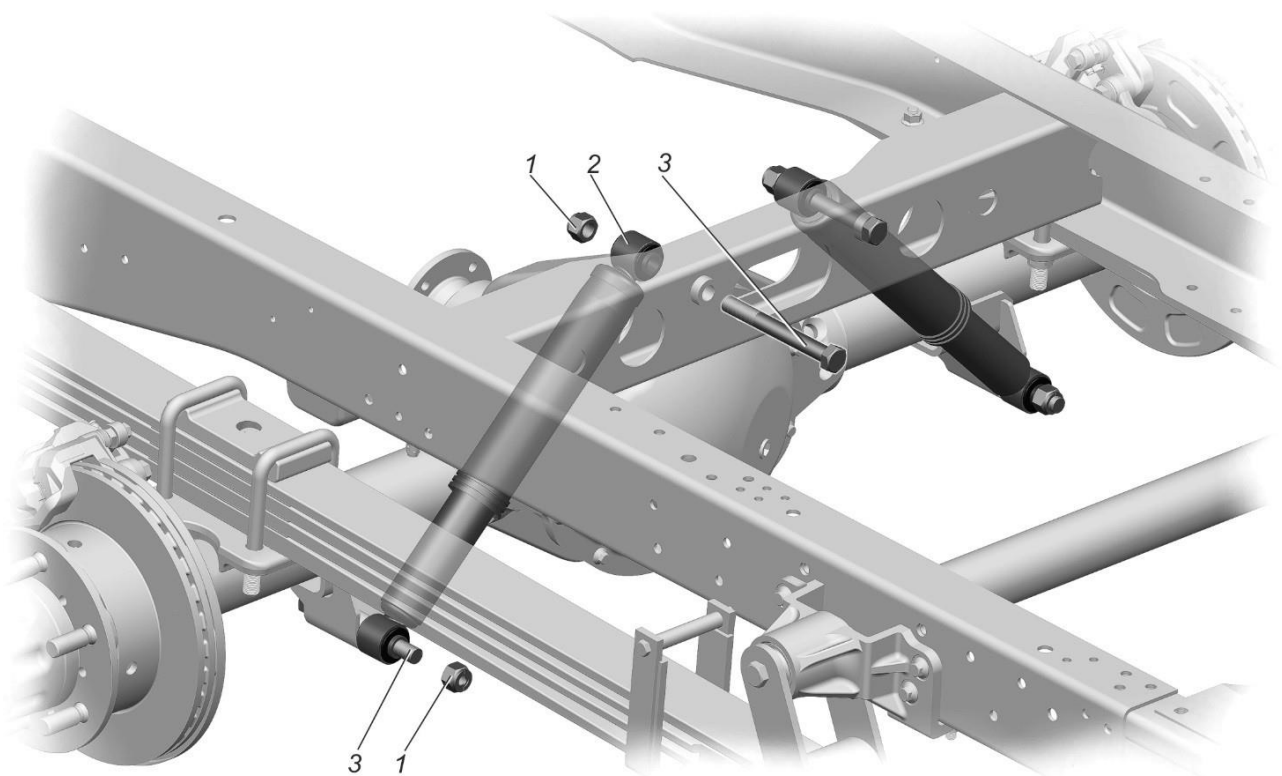

Fig. 4.34. Rear suspension shock absorber installation: 1 - nut; 2 - shock absorber; 3 - bolt
- unscrew the nut 1 (Fig. 4.34) of the bolt securing the lower pivot of the shock absorber;